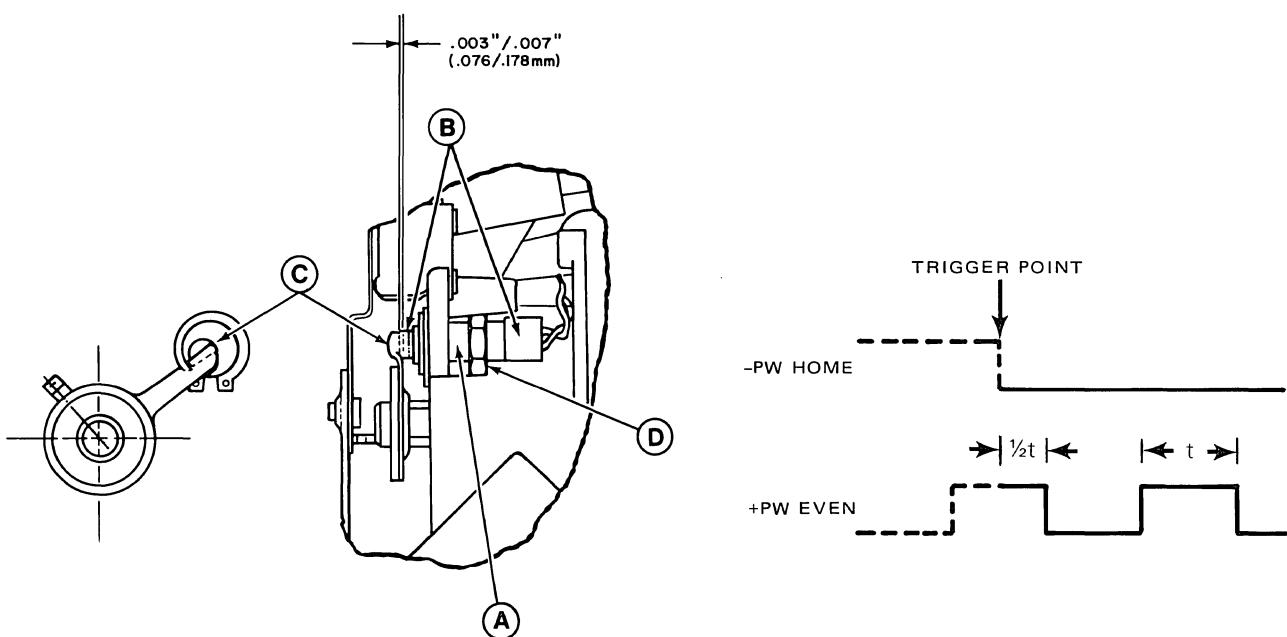
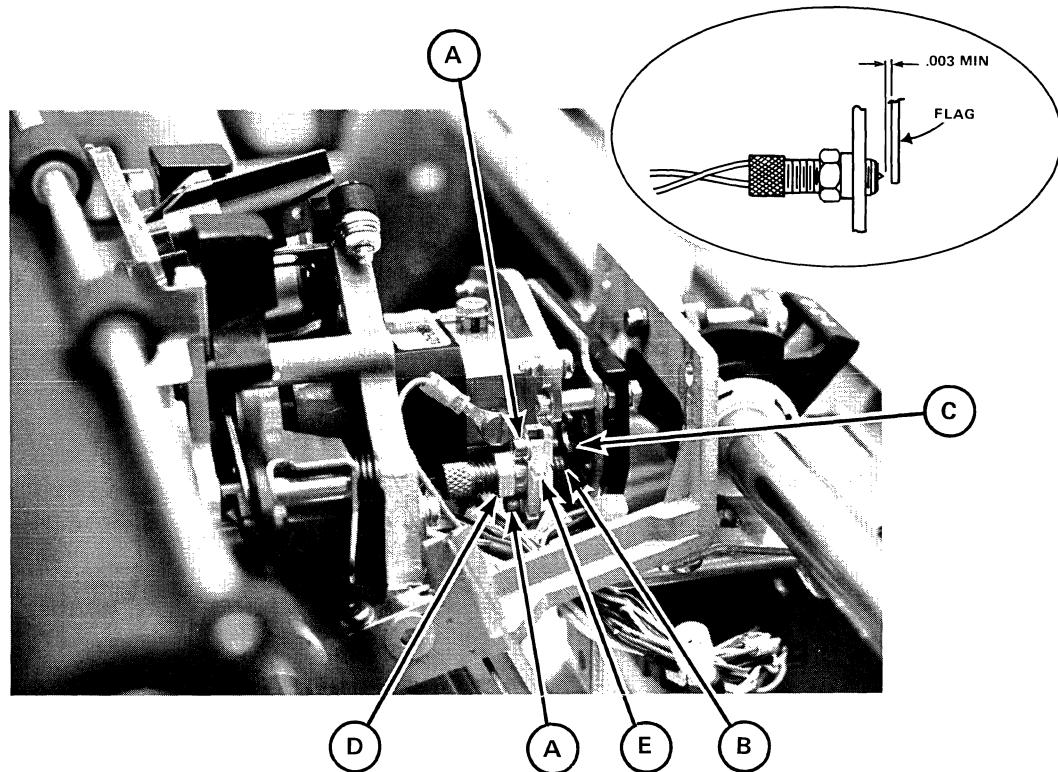
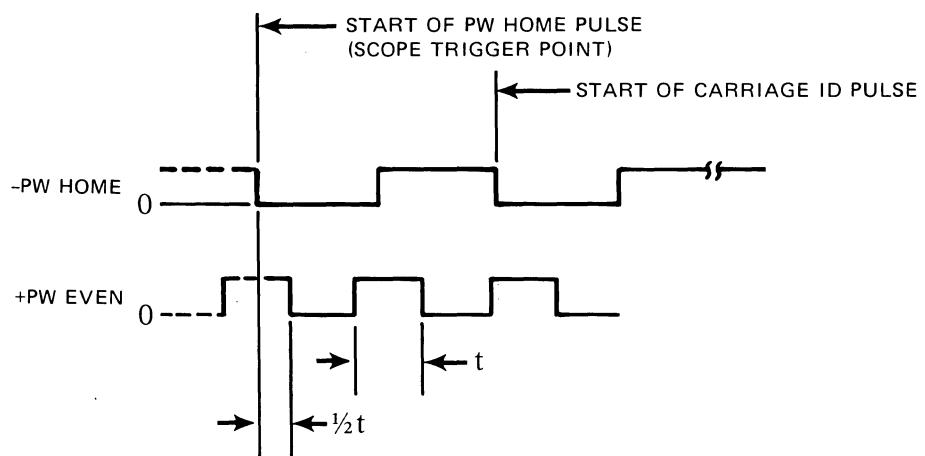

Figure 5-10.
Figure 5-12. PRINT WHEEL HOME ALIGNMENT (ECS Carriage)
Figure 5-13. PRINT WHEEL HOME ADJUSTMENT WAVEFORMS (ECS Carriage)
Using a 7/16" open-end wrench, adjust the home sensor eccentric (Item A, Figure 5-10) to obtain the timing relationship shown in Figure 5-11. The negative edge of -PW HOME should occur at the midpoint of a +PW EVEN high period.
- a. Using a 5/64" hex L-wrench, slightly loosen the two socket head screws (A) holding the home sensor assembly (Fig. 5-12).
- b. With a screwdriver blade in the adjustment slot (E in Fig. 5-12), adjust the home sensor up or down to obtain the timing relationship shown in Figure 5-13. The negative edge of -PW HOME should occur at the midpoint of a +PW EVEN high period.
- c. Tighten the two screws (A) and recheck the timing waveforms.
Refer to Figure 5-10 (non-ECS carriage) or Figure 5-12 (ECS carriage).